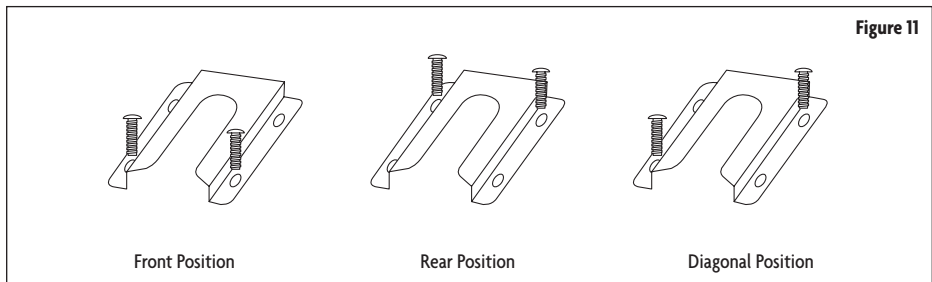

Figure 11
5. Using the two screws provided, secure the anti-tip bracket to the floor. (Refer to Figure 11 for 3 different securing options.)